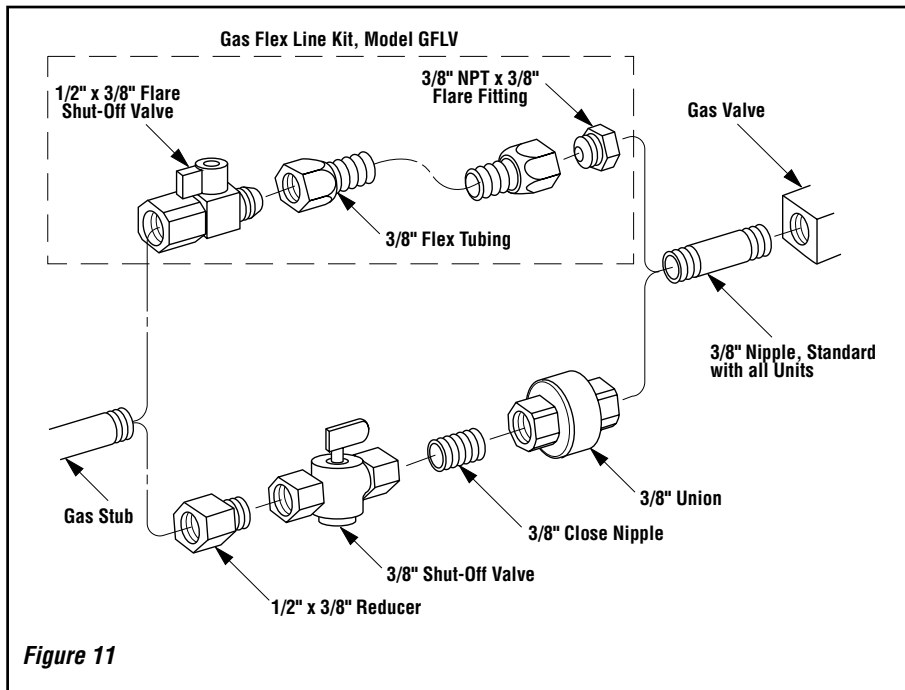

Figure 11
Step 5. Connecting Gas Line – Make gas line connections. All codes require a shut-off valve mounted in the supply line. Figure 11 illustrates two methods for connecting the gas supply. Installation methods and materials must be in compliance with local codes.